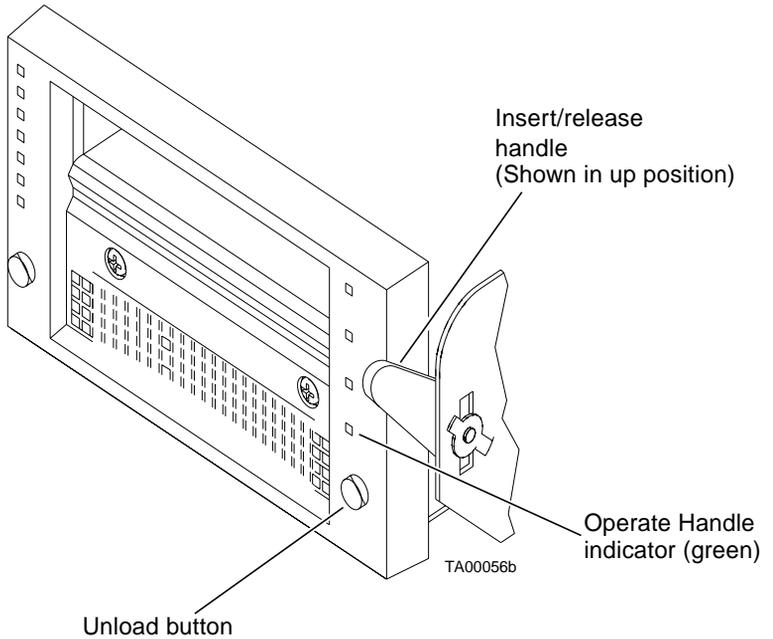

FIGURE 3-7 DLT7000 Front Bezel
- 3. Press the Unload button on the drive (FIGURE 3-7) and wait for the Operate Handle indicator to light.**